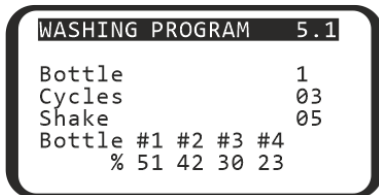

Figure 13. Running program with 4CHW Logger attached
5.8.2 If **4 CHW Logger**, the 4-channel washing solution weight logger is connected to the unit, then in addition to values on figure 12, display shows percentage of the remaining volume of liquid in the bottles (figure 13). For the waste bottle #4, percentage values will be increasing.